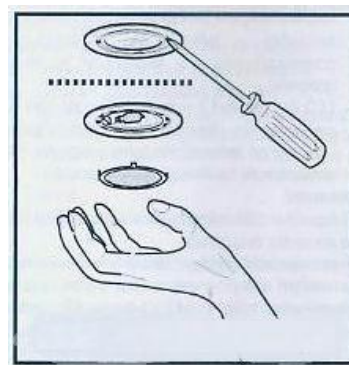

Fig.7
- The illumination installation is designed for use during cooking and not for prolonged general illumination of the environment. Prolonged use of the illumination installation notably reduces the duration of the bulb. Use a one-edged screwdriver or any other appropriate tool to lift and remove the overhead light fixture. Replace the damaged lamp. Use only halogen lamps as the original specification, avoiding contact with hands. Return the light fixture to its position (snap fastening). (Fig. 7)
- (1) Push the right middle corner on the glass of the decoration door (Fig.A), the decoration door will open (Fig.B).
- (2) Take out the aluminum filter (Fig.C);
- (3) Push the clips on the charcoal filters and then pull back, then the charcoal filters can be taken down (Fig.D).